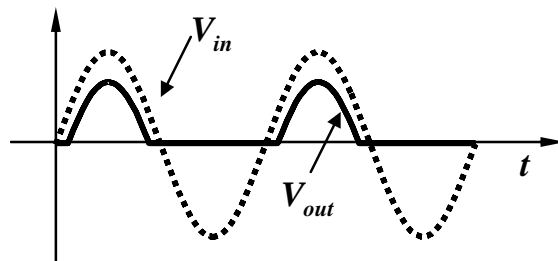

Figure 1-18 – Input and output waveforms for a half-wave rectifier
- Set up the oscilloscope to measure  $V_{in}$  on CH1 and  $V_{out}$  on CH2. Record/sketch the input and output voltages shown on the oscilloscope. (Make sure you align the axis of CH1 with the axis of CH2.) Label your graph and note the maximum and minimum values of the input and output signals. You should observe something like the waveforms shown in Figure 1-18.